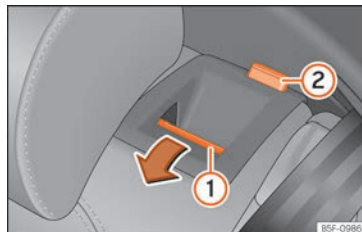

Fig. 107 Rear seat: folding the backrest.
- Press the unlock button »» Fig. 107 ① forwards and at the same time fold the backrest